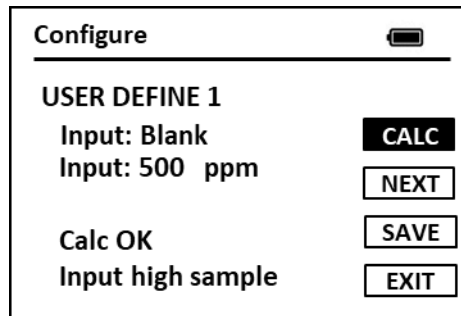

Figure 10
3. Place the calibration standard into the HM-900 sample compartment. Input the standard oil concentration using the four keys around the central OK key as shown in figure 10.
5. Adjust the equivalent concentration using the four keys around the central OK key as shown in figure 10. The equivalent concentration of the secondary standard corresponding to each default oil type is listed above. The equivalent concentration of the secondary standard corresponding to the user defined methods are determined in section 8.4.